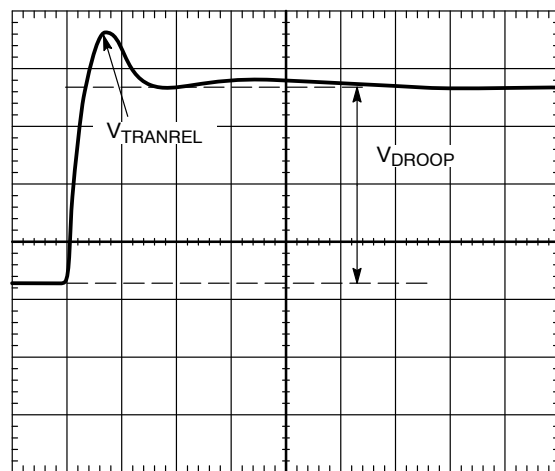

Figure 16. Transient Setting Waveform
- For load release (see Figure 16), if $V_{TRANREL}$ is larger than the allowed overshoot, there is not enough output capacitance. Either more capacitance is needed, or the inductor values need to be made smaller. When changing inductors, start the design again using a spreadsheet and this tuning procedure.